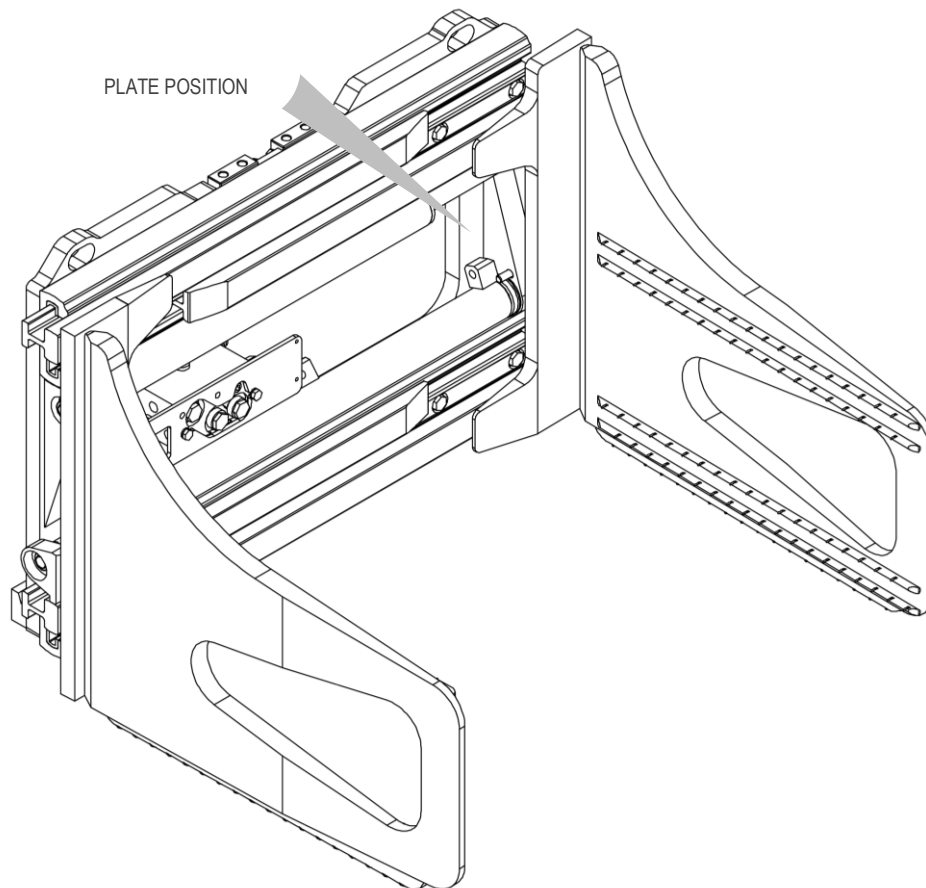

Figure 1
All the A.T.I.B. equipment – “BALE CLAMP WITH THIN BLADES TYPE 474.131 | BALE CLAMP WITH CRIMPED BLADES TYPE 474.130 | CLAMP FOR FOAM RUBBER BLOCKS TYPE 474.195” are identified by means of an adhesive plate (see *Table 1*) located on the equipment (see *Figure 1*), always refer to the serial number.
5. For handling, use straps or chains that are suitably sized in relation to the weight of the equipment as indicated on the plate (see *Figure 1* and *Table 1* on page 7).
9. Connect the hydraulic circuit, ensuring that the operating pressure of the lines is greater than or equal to that indicated on the rating plate (see *Figure 1* and *Table 1* on page 7).
6. For handling, use straps or chains that are suitably sized in relation to the weight of the equipment as indicated on the plate (see *Figure 1* and *Table 1* on page 7).